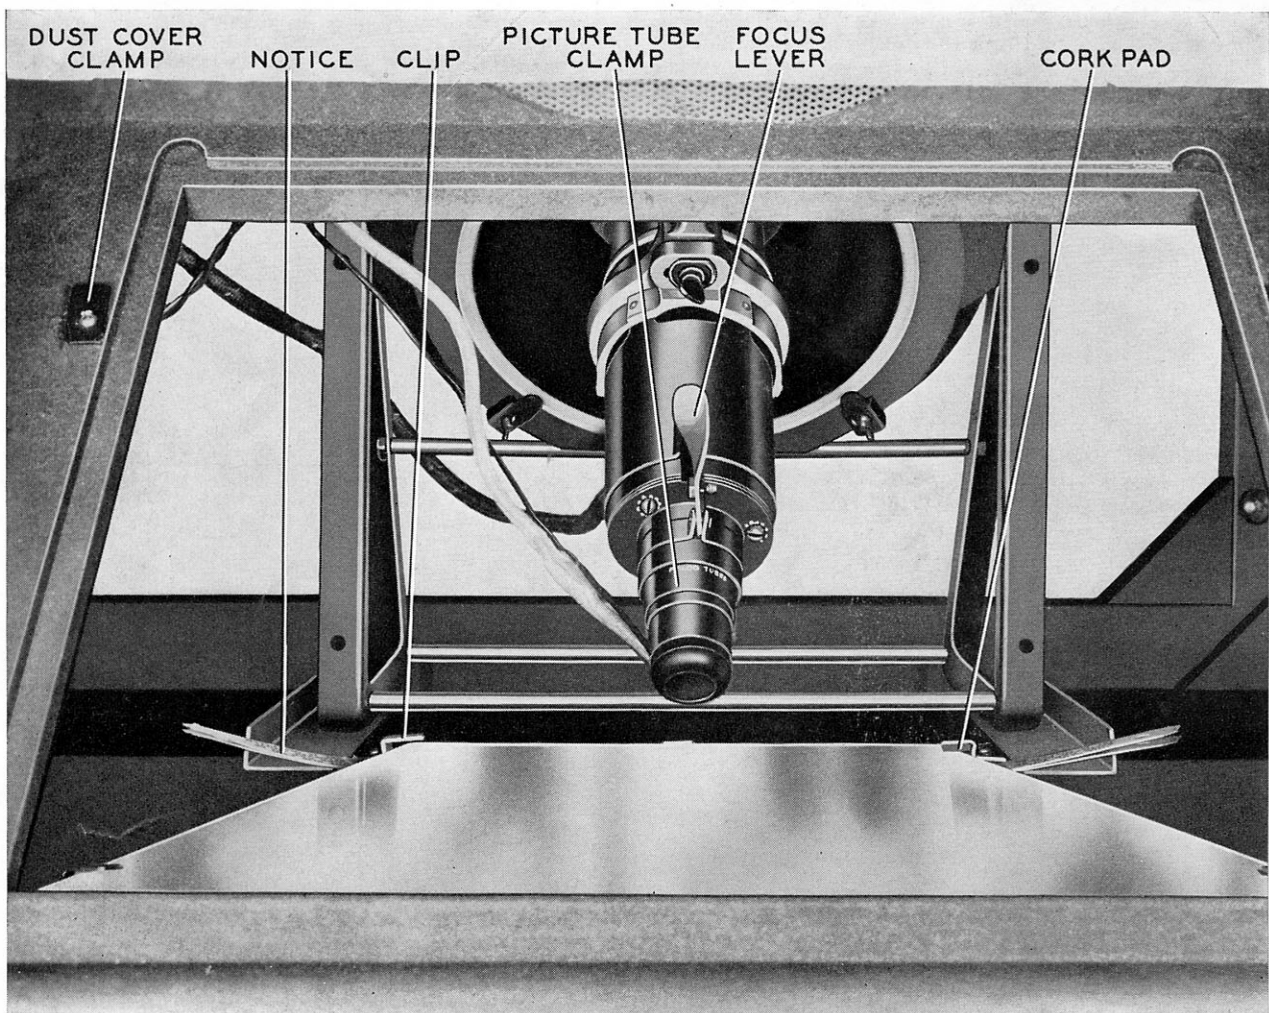
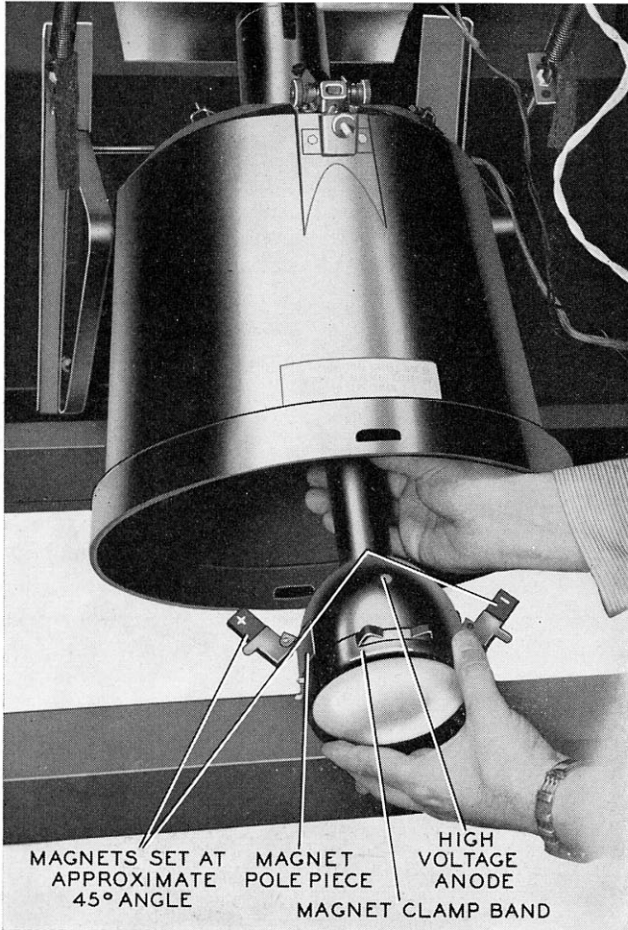

FIGURE 3. Glass Dust Cover Removed
FIGURE 6. Inserting the Picture Tube TP-3659
12. Remove the two clips, cork pads, and notices from the flat mirror. See figure 3.
18. The brass tube-centering ring must be in place in the front end of the deflection yoke. Loosen the picture-tube clamp screw (see figure 3), and install the picture tube through the deflection yoke. Do not foul the deflection-coil cable leads inside the yoke when inserting the tube. See figure 6. Push the tube upward, rotating it slightly from side to side until the bell of the tube is firmly seated and touches the deflection coil. Align the high-voltage anode of the picture tube vertically.